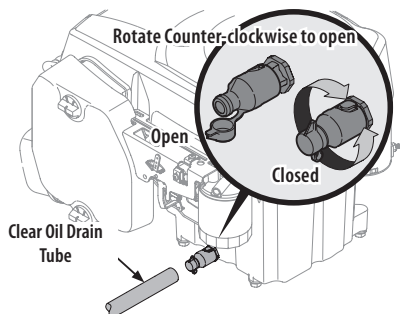

Figure 34
4. Open the protective cap on the end of the oil drain valve to expose the drain port. See Figure 34.